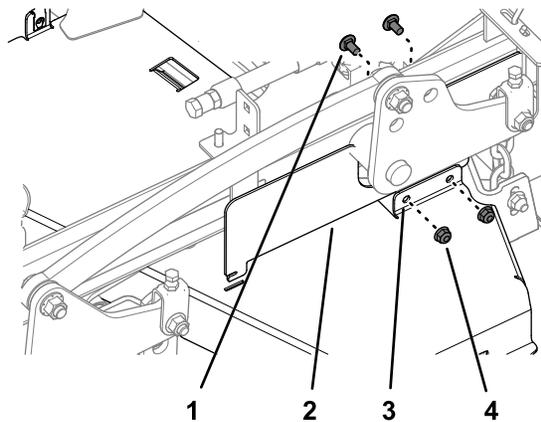

**Figure 6**
2. Remove the bolt that secures the belt cover flanges as shown in Figure 6.